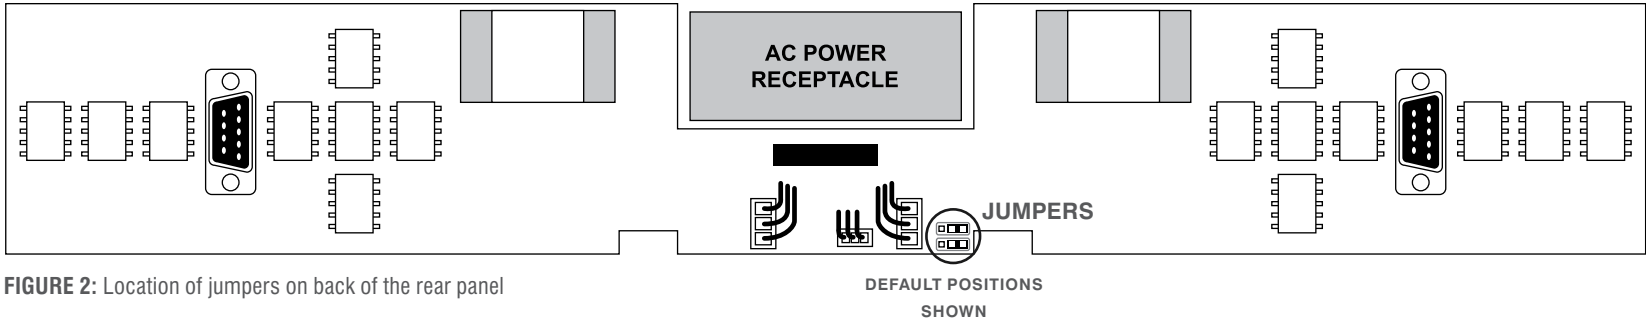

FIGURE 2: Location of jumpers on back of the rear panel
STEP 4: Locate jumper J17 on the rear panel board of the unit. Using needle-nose pliers, move the jumper from between pins 2 and 3 to pins 1 and 2, DISPLAY BLANKING ON. (See FIGURES 2 and 3)